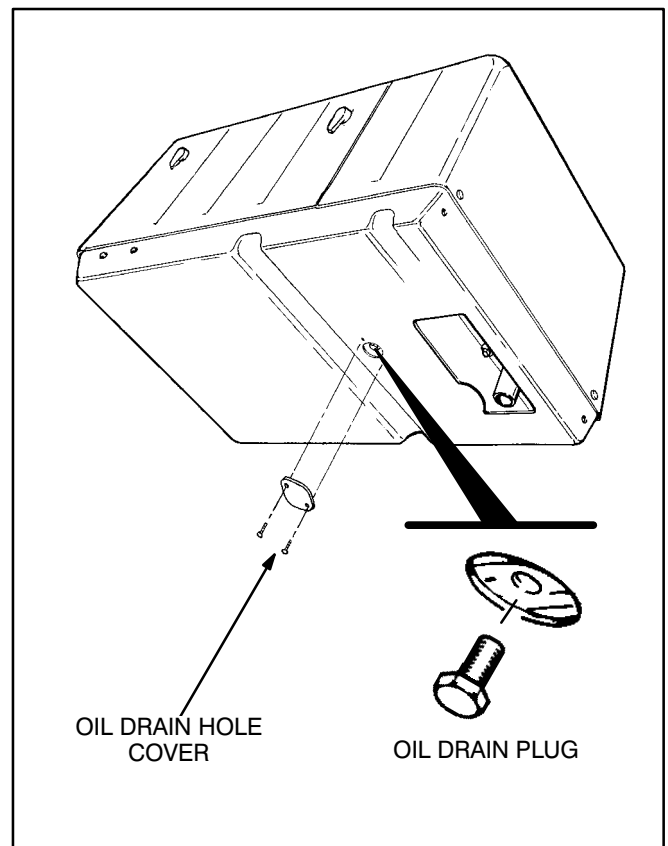

FIGURE 3-2. OIL DRAIN PLUG
2. Remove the oil drain hole cover in the base, place a pan underneath and unscrew the drain plug (Figure 3-2). Let all oil drain from the engine and then secure the drain plug. Torque the plug to 21 lbs-ft (27 N-m) and secure the cover.